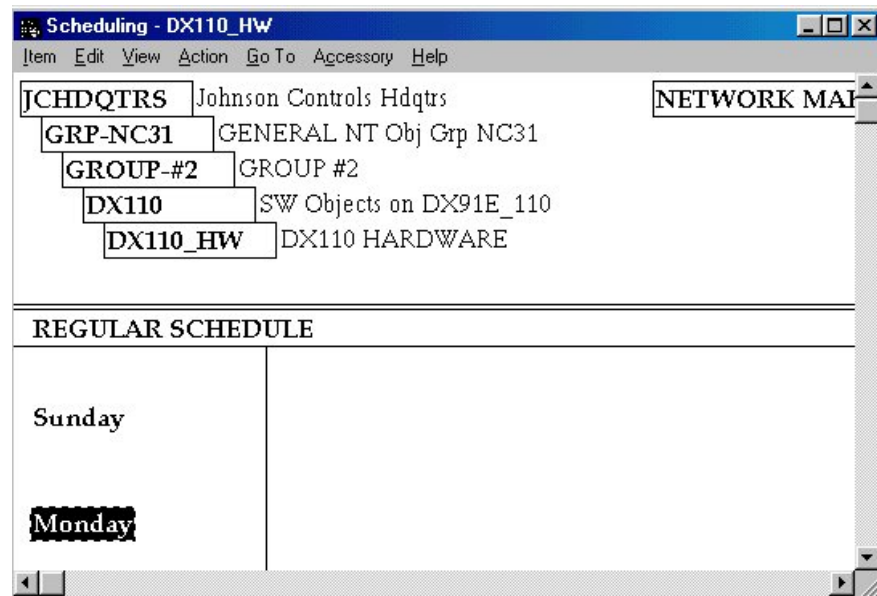

Figure 9-7: Scheduling Window (for Summaries)
3. On the Go To menu, click Schedule. The Scheduling window appears (Figure 9-7).